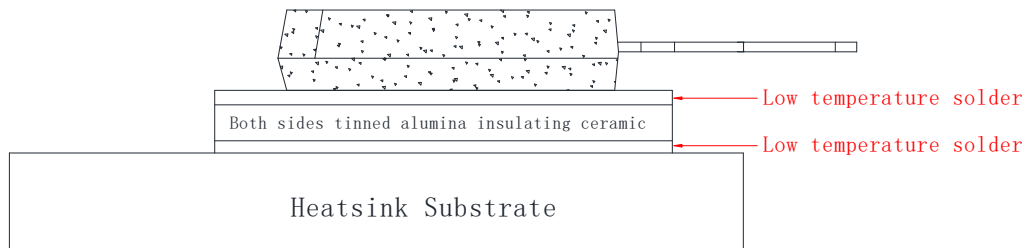
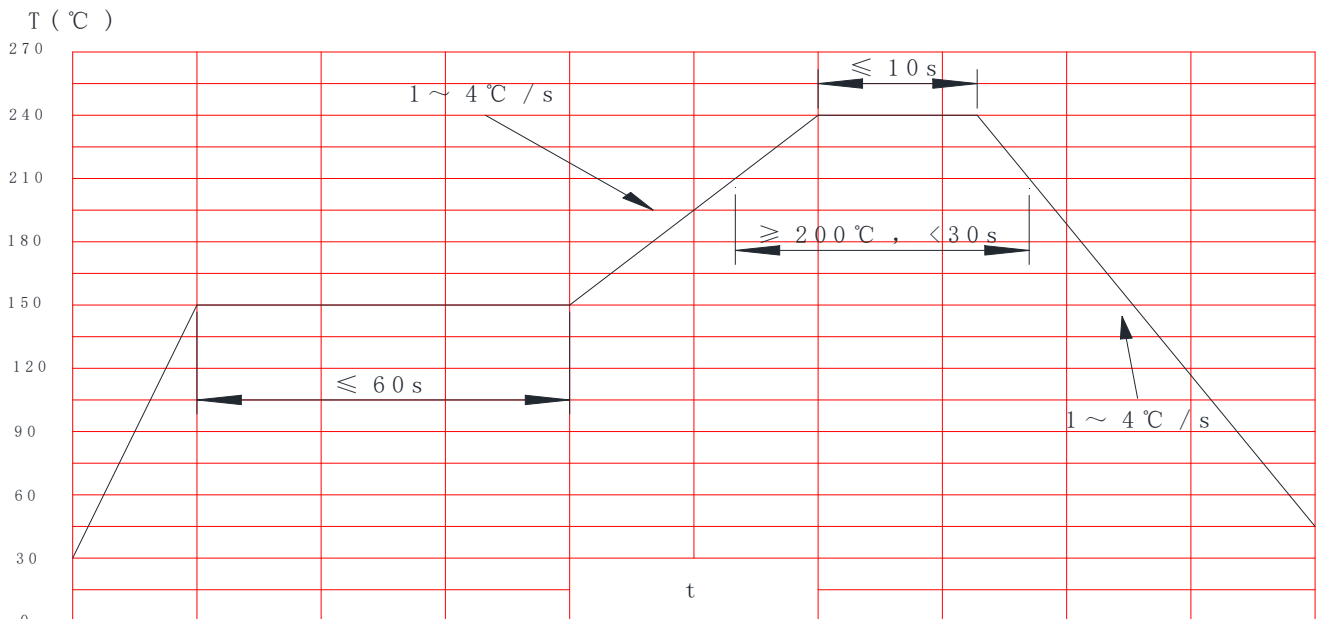

Fig. 19 Soldering the heatsink substrate, the insulating ceramic sheet and device
Fig. 20 Reflow thermal profile
2. Use solderable materials (such as Cu) for the heatsink substrate and 0.5 ~ 1.0mm thick tinned alumina (AL_2O_3) for the insulating ceramic sheet. Solder the heatsink substrate, the insulating ceramic sheet and devices together, as shown in Figure 19. See Figure 20 for soldering requirement.
- Reflow thermal profile, as shown in Figure 20.